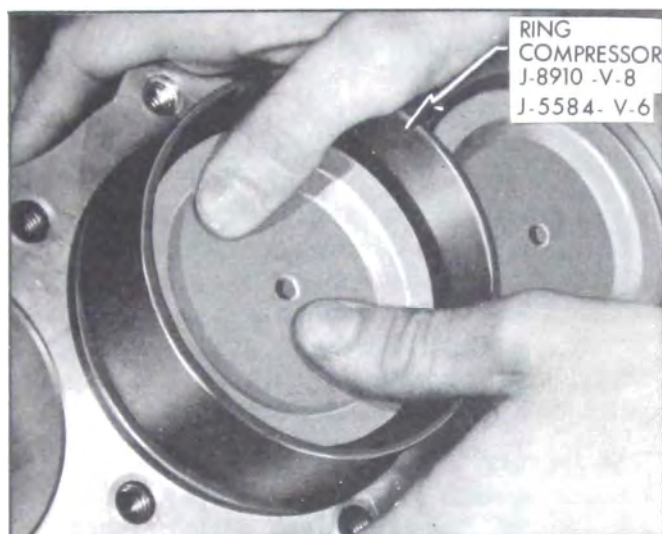

Figure 2-62—Installing Piston with Ring Compressor
15. Lubricate the piston and rings and install in bore by compressing the rings either with a "wrap around" compressor or a split ring type such as shown in Figure 2-62.